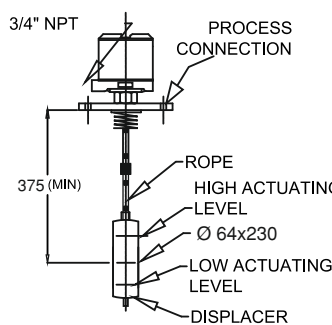

FIGURE 3: MODEL 411
- 411 : Narrow differential (fixed) type using **One** Switch Assembly and **One** Displacer. (Min. Operating point of 375 mm. (Refer Fig. 3)